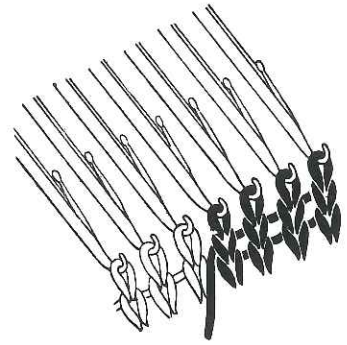

Fig. 7
- Bring all the needles into holding position and follow the instructions as given before to reverse the knitting. Be sure to bring the yarn UP and above the knitting as before (Figure 7). Leave the Cam Box (or Slide) on the left side, because in reversing your knitting, the 20 needles now on the left side have been knitted, the 20 needles on the right have not been knitted. . . so connect your yarn to feeder, bring 20 needles on the left side into holding position and knit 1 row to the right over the right 20 needles. Bring all the needles into holding position and reverse your knitting. Move the Cam Box to left side, knit 1 row to the right across all of the needles. REPEAT from * for as many times as you need.